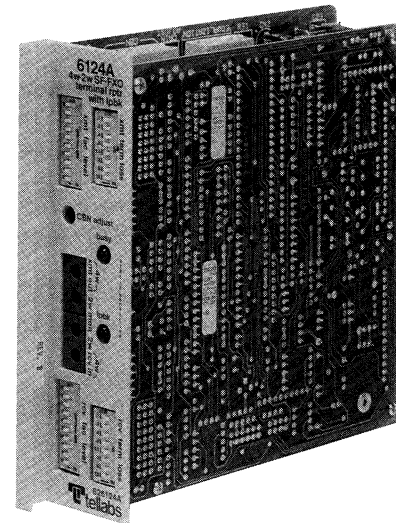

figure 1. 6124A 4Wire-to-2Wire SF-to-FXO
1.01 The 6124 and 6124A 4Wire-to-2Wire SF-to-FXO Terminal Repeater modules (figure 1) each provide active transmission interface and bidirectional signaling conversion between a 4wire facility that uses 2600Hz single-frequency (SF) signaling and a 2wire metallic link (to a CO switch or a PBX) that uses foreign-exchange office-end (FXO) loop signaling. This type of loop signaling is normally associated with the office (switching-equipment) end of both foreign-exchange (FX) and off-premises-station (OPS) circuits. Unlike the 6124, the 6124A contains transmission and signaling loopback circuitry to facilitate local or remote testing of the module and the facility. As members of Tellabs' 262 Network Channel Terminating Equipment/Data Station Termination (NCTE/DST) System of modules and enclosures, the 6124 and 6124A each fulfill Registered Facility Interface Codes OC13A, OC13B, OC13C, OL13A, OL13B, and OL13C for applications where the serving telephone company uses facility-side SF signaling.